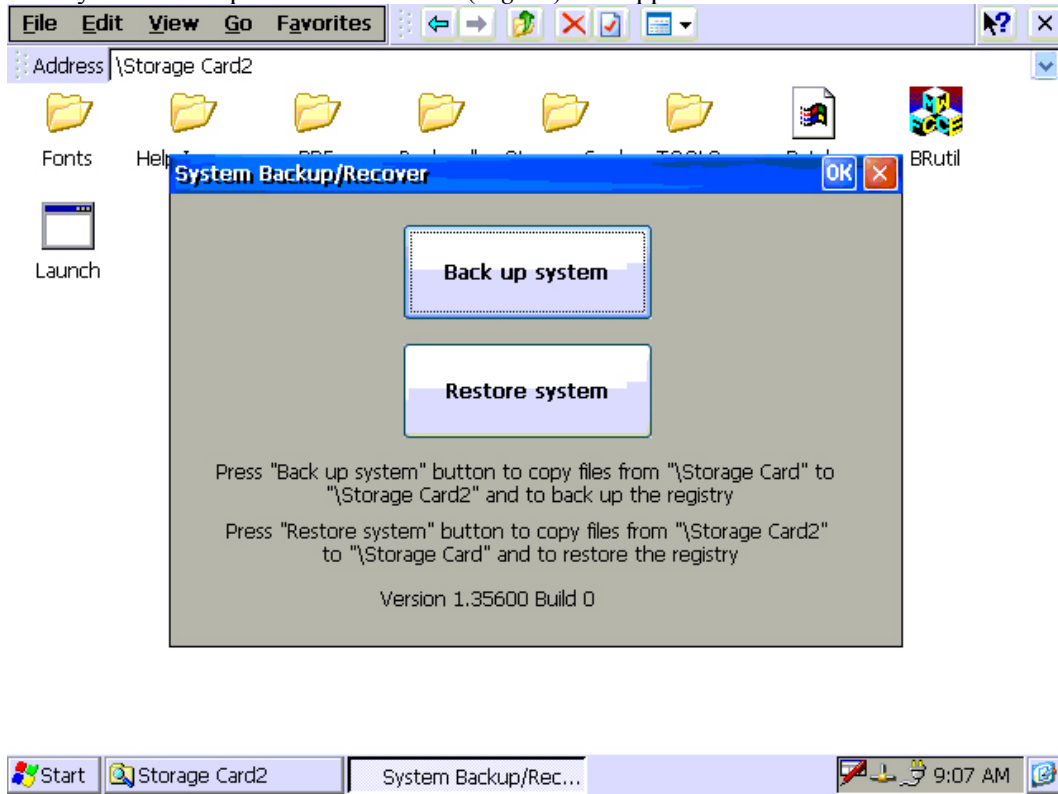

Fig 21
43. The System Backup/Recover Window (Fig 21) will appear.